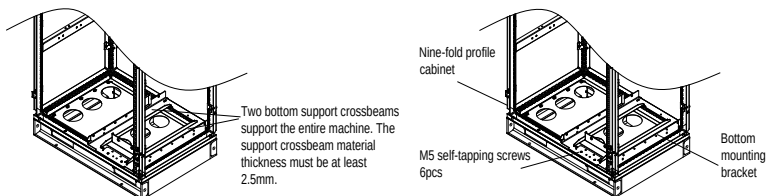

Figure 4-13 Bottom mounting bracket
2	Fix the bottom support crossbeams and mounting bracket in the cabinet. (See Figure 4-13.)
2. Fix the bottom support crossbeams and mounting bracket. See Figure 4-13.
- B. Fix the mounting bracket to the nine-fold profile cabinet frame base with six M5 self-tapping screws, as shown in Figure 4-13. For details about mounting bracket dimensions, see Figure C-15 and Table C-7.